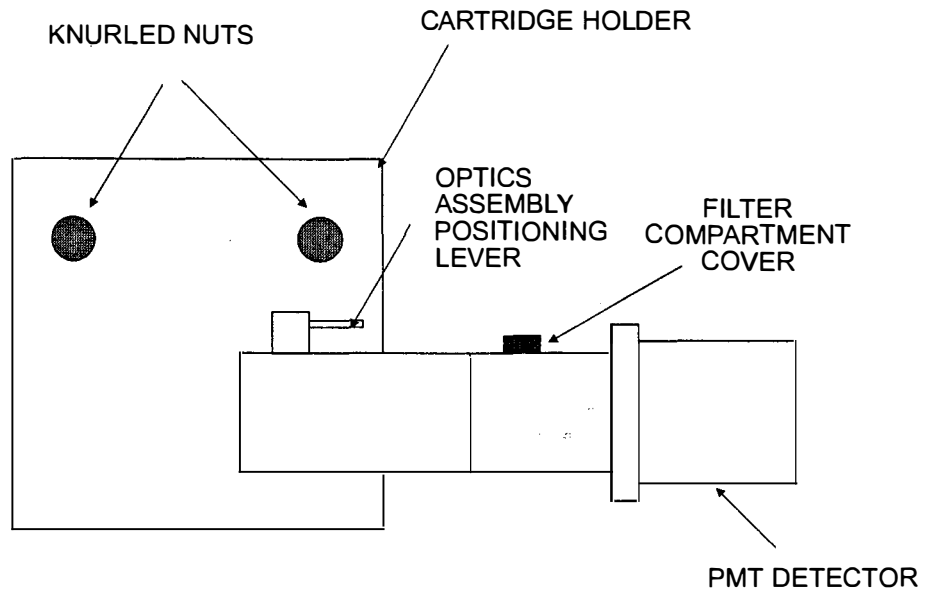

Figure 4-1 LIF Optics Module
7. Place the LIF cartridge holder and detector assembly in the cartridge compartment as shown in Figure 4-1. Place the flexible conduit in the notch on the right side of the cartridge compartment.